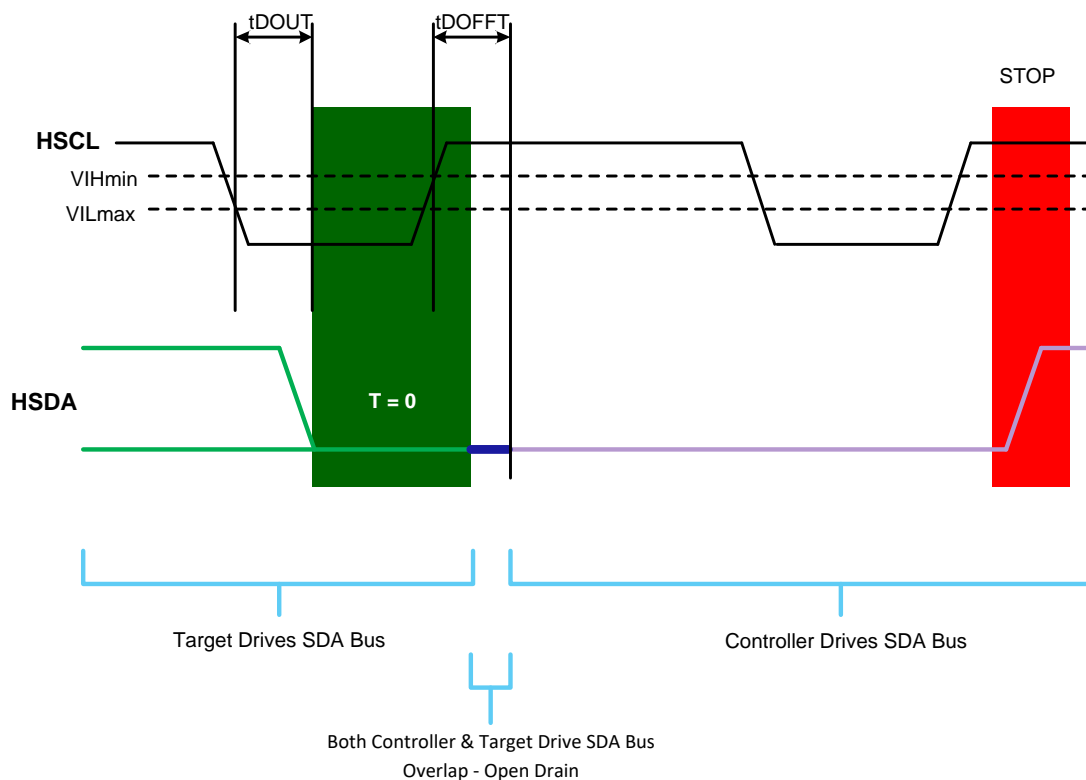

Figure 15 T = 0; Target Ends Read; Host Generates STOP
6. See Figure 15 to see how Target device ends the operation followed by Host STOP operation.
8. When last byte (i.e. MR255) is reached (extreme rare case), the Target device sends T = '0'. See Figure 15 to see how Target device ends the operation followed by Host STOP operation.
- See Figure 15 to see how Target device ends the operation followed by Host STOP operation.
3. When last byte (i.e. MR255) is reached (extreme rare case), the Target device sends T = '0'. See Figure 15 to see how Target device ends the operation followed by Host STOP operation.
2. See Figure 15 to see how Target device ends the operation followed by STOP operation.
5. When last byte (i.e. MR255) is reached (extreme rare case), the Target device sends T = '0'. See Figure 15 to see how Target device ends the operation followed by Host STOP operation.
4. See Figure 15 to see how Target device ends the operation followed by STOP operation.